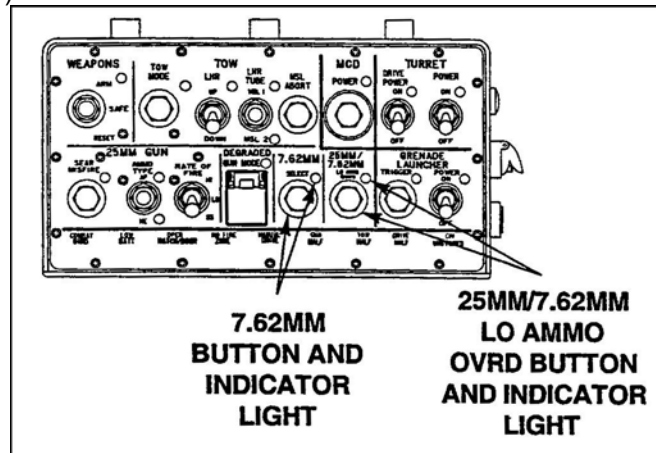

Figure 4. 7.62-mm select button.
- (6) Close the M240C coaxial machine gun access doors.
- (7) Turn the turret drive system switch on the SCB to ON.
- (8) Move the ARM-SAFE-RESET switch on the SCB to ARM.
- (9) Ensure the 7.62 select light is lit. If it is not lit then press the 7.62 push button on the SCB (Figure 4).